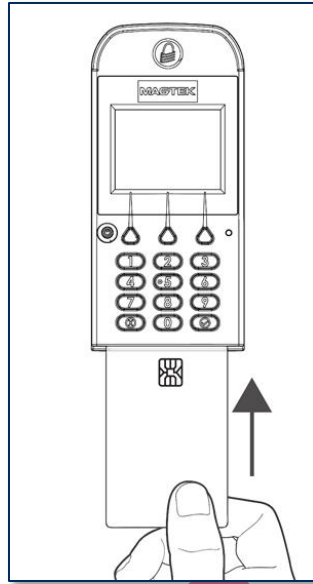

Figure 6-19 - Inserting a Chip Card
- 2) Locate the slot on the front of the device shown in **Figure 6-19**.